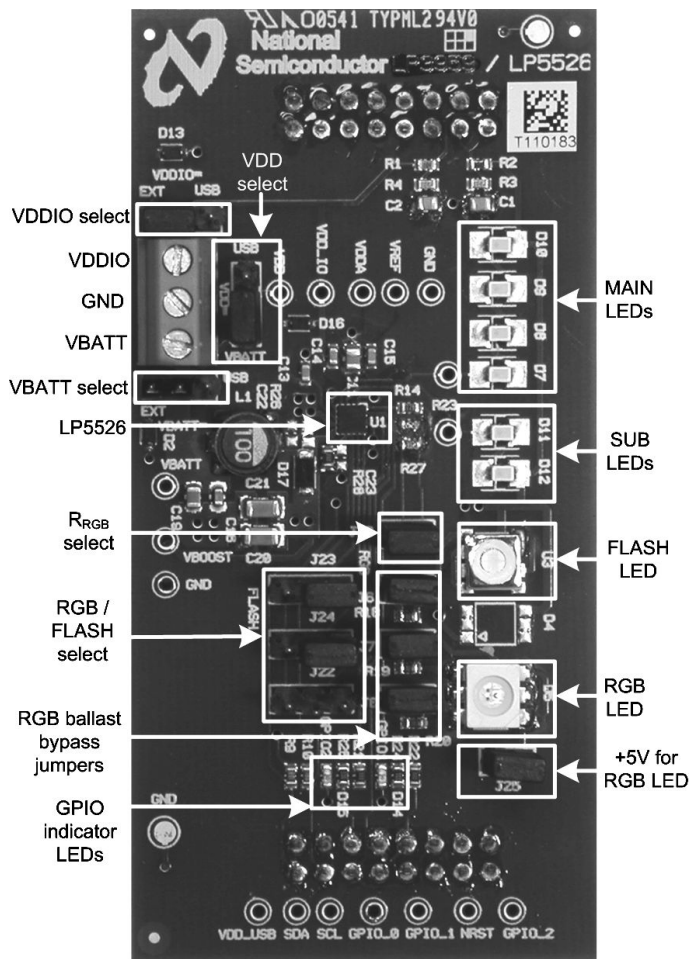

Figure 8. LP5526 Evaluation Board
1. Check the jumpers and switches on the board according to Figure 8. NOTE especially the power connection jumpers:  $V_{BATT}$  is connected to external voltage source; USB power should NOT be used unless you are sure that you are not overloading USB supply. Using FLASH LEDs can overload USB supply.  $V_{DD}$  and  $V_{DDIO}$  are connected to USB.